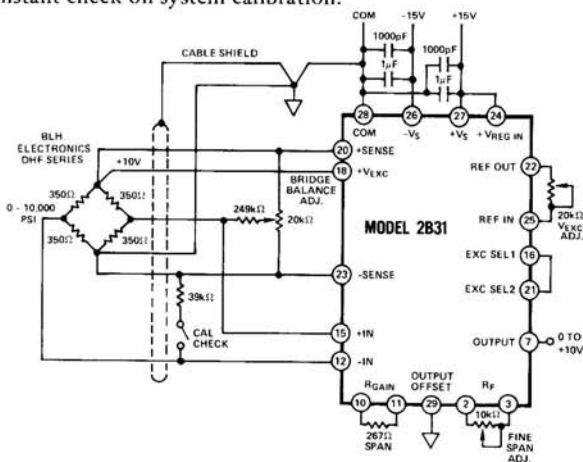

Figure 6. Pressure Transducer Interface Application
**Pressure Transducer Interface:** A strain gage type pressure transducer (BLH Electronics, DHF Series) is interfaced by the 2B31 in Figure 6. The 2B31 supplies regulated excitation (+10V) to the transducer and operates at a gain of 333.3 to achieve 0-10V output for 0-10,000 p.s.i. at the pressure transducer. Bridge Balance potentiometer is used to cancel out any offset which may be present and the Fine Span potentiometer adjustment accurately sets the full scale output. Depressing the calibration check pushbutton switch shunts a system calibration resistor ( $R_{CAL}$ ) across the transducer bridge to give an instant check on system calibration.